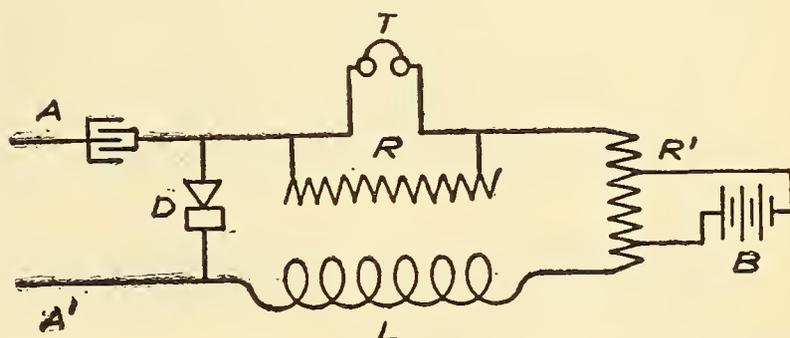

FIG. 2
od" at a station a distance of 40 miles from the transmitting aerial. Fig. 2 shows the connections, (A) and (A') representing the leads from the tuning coil, (T) the telephone receivers, (D) a carborundum detector, (L) a small choke coil, (R') and (B) the usual potentiometer and battery for a carborundum detector, and (R) a non-inductive variable resistance box. The choke coil used was the secondary of a small telephone induction coil of 180 ohms resistance. The value of the current I in the receivers is approximately proportional to the energy of the incoming waves upon the aerial and is expressed by the equation